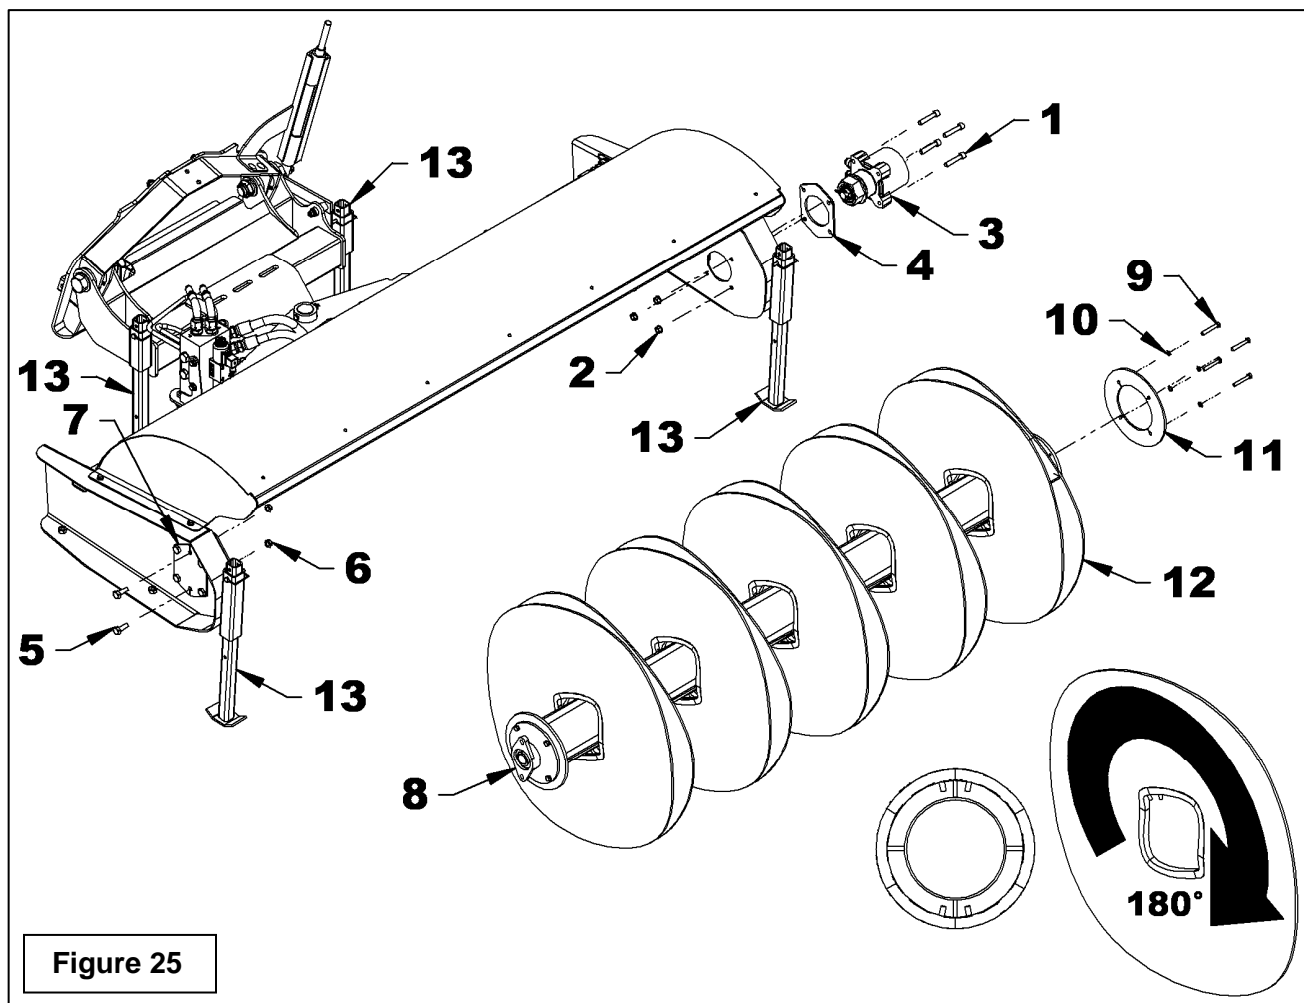

Figure 25
**(Figure 25)**
10. Install the new brushes (item 12) on the brush support (item 8) by aligning the guides on each side of one of the brush support tubes and rotating each brush 180° (see figure 25).
11. Shake the brushes (item 12) before installing the retaining plate (item 11) to compress them.
12. Reinstall the retaining plate (item 11) and secure in place with the four 3/8" NC x 2 1/2" hex. bolts and the four lockwashers (items 9-10). There should be no gap between the brushes once the retaining plate is installed.
13. Place the brush support (item 8) under the broom cover.